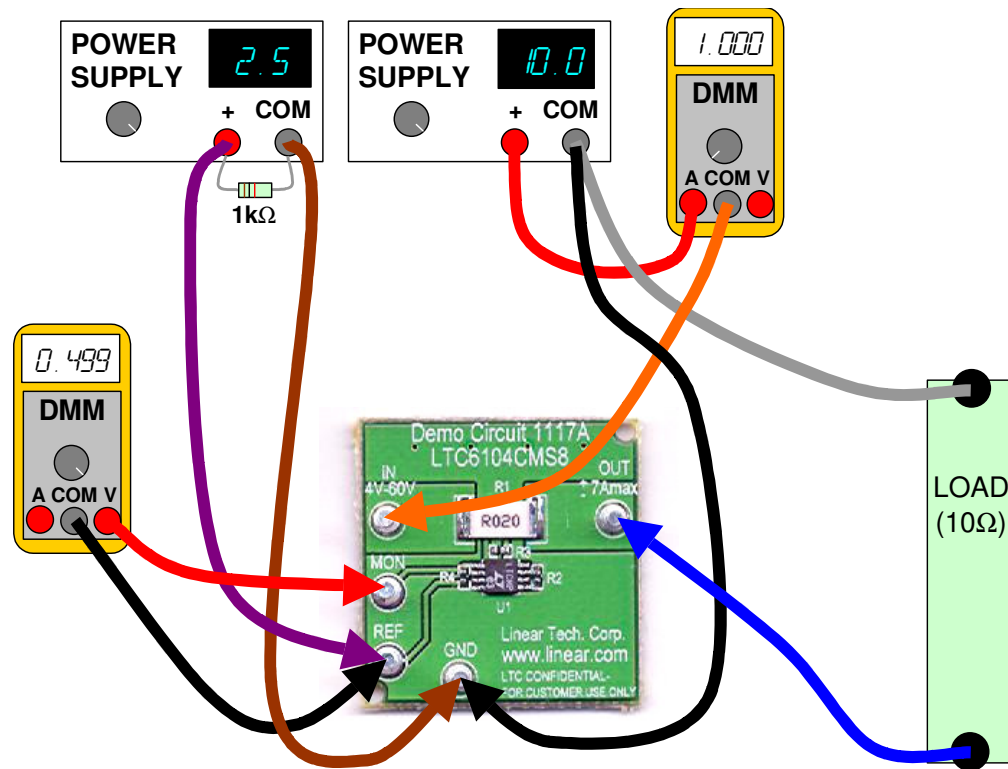

Figure 1. Proper Measurement Equipment Setup
Demonstration circuit 1117 is easy to set up to evaluate the performance of the LTC6104. Refer to Figure 1 for proper measurement equipment setup and follow the procedure below:
1. With power off, connect a power supply positive to IN and the common to GND. This supply should be in the range of 4V to 60V. If this supply is not equipped with an accurate current readout, a DMM (set to measure Amperes) may be connected in series with the supply as shown in Figure 1.
2. With power off, connect a reference voltage (2.5V for example) to REF and the common to GND. This supply must be capable of sourcing and sinking up to 1mA. This can be done with a normal lab power supply using a 1k $\Omega$  loading resistor to assure a unidirectional supply current in all conditions (this configuration is shown in Figure 1).
3. Connect a voltmeter or oscilloscope probe to the MON terminal, with the common connection or ground clip tied to GND. Alternatively, the measurement may be taken differentially between MON and REF to get a true bipolar readout (this is the DMM connection shown in Figure 1).